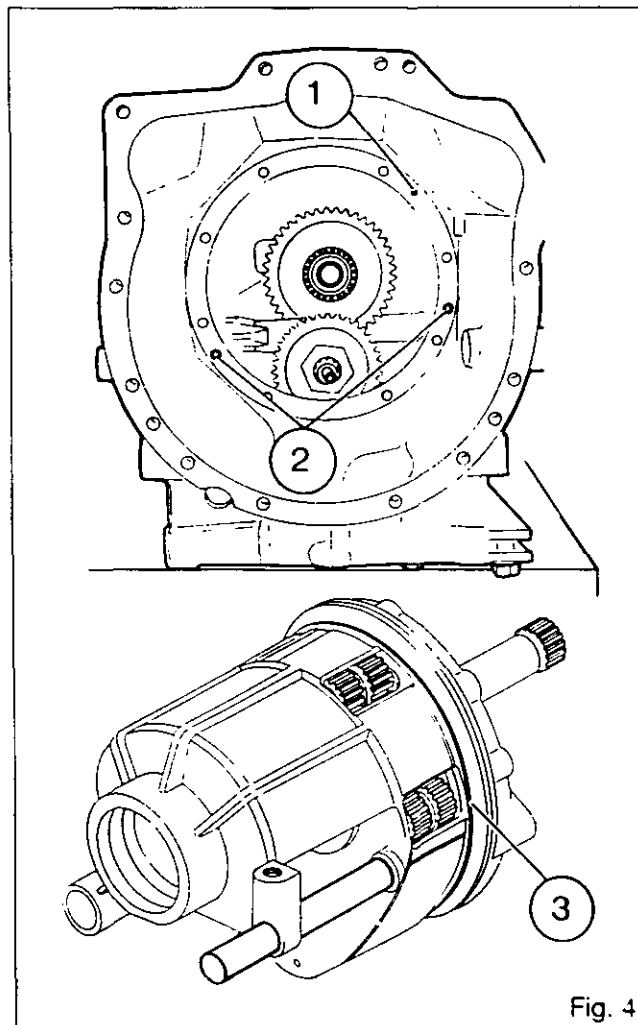

Fig. 4
**N.B.:** Save the locating pin (1) but discard the O-rings (2) and (3) (Fig.4).
13. Remove plug (29), spring (28) and locking plunger (27).
14. Unscrew bolts (32).
15. Remove guide rail (31) and fork (30).